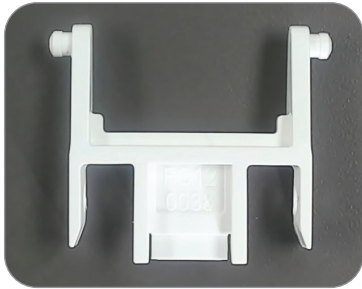

Figure 4
1. Take the adapter and position it with the part number FC120038 visible on top. (Figure 4)